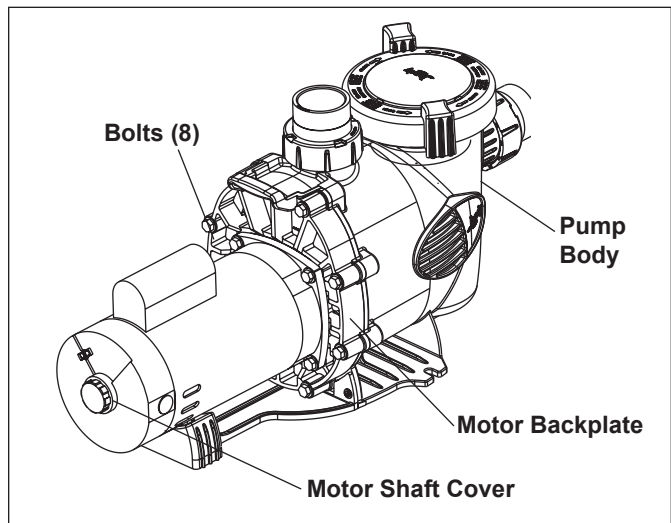

Figure 3. Remove the Pump Housing
3. Using a 9/16" wrench, loosen the bolts connecting the pump body to the motor backplate. See Figure 3.
7. Remove the motor shaft cover on the back of the motor by twisting the hex-head screw with a 90° crescent wrench. (See Figure 3.) The motor shaft will be exposed.